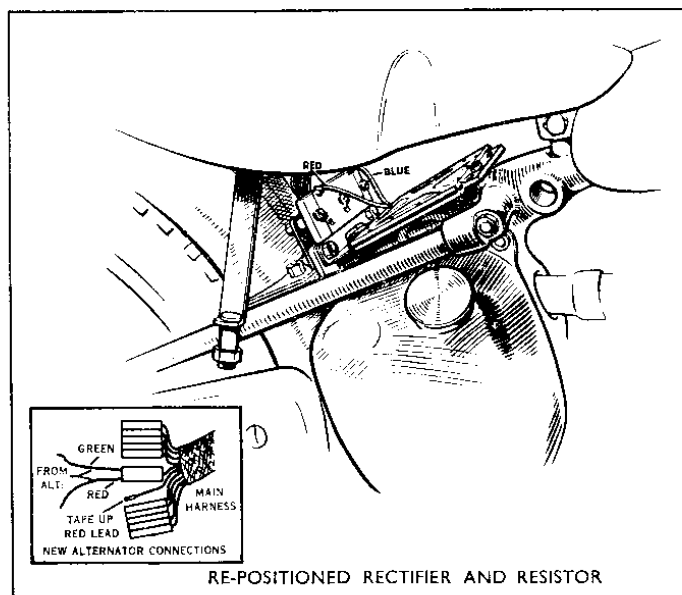

Fig. 64
- (a) Remove both green and both red leads from the connector block under the saddle. Using the double snap connector provided, connect the green and the red lead from the alternator to the green lead in the main harness. Tape up the red lead in the main harness which is no longer required. (See inset illustration, (Fig. 64.)